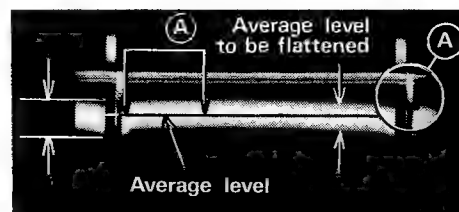

Fig 7.29
- (1) Cap the lens (or close the iris control mechanism)
- (2) Connect the oscilloscope probe between terminals TP-2 and TP-E on the Video Process PCB (CA 1501A)
- (3) Adjust VR02 **OB ADJ** potentiometer on CA 1501A in order to equalize step (A) shown in Figure 7.29.